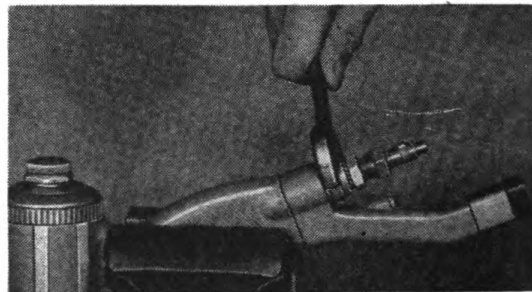

Figure 228
(1) Remove oiler (See Figure 228) and clean oiler hole. There is a very fine hole in center of oiler casting.